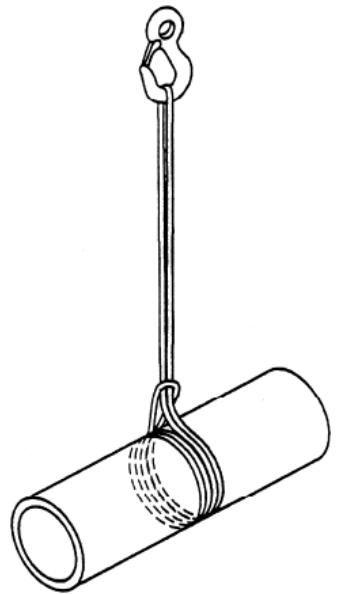

Fig. 1
- When a sling is used in choke hitch, it should be positioned so as to allow the natural angle ( $120^\circ$ ) to form and avoid heat being generated by friction. A sling should never be forced into position nor an attempt made to tighten the bite. The correct method of securing a load in a double choke hitch is illustrated in Fig. 1. This double choke hitch provides greater security and helps to prevent the load sliding through the sling.